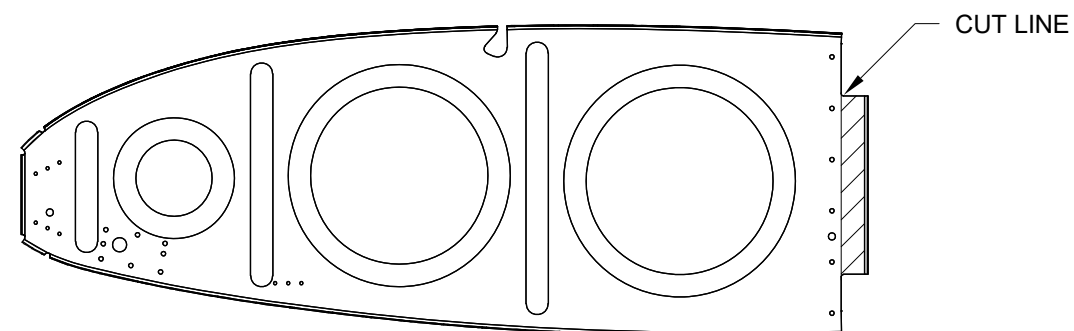

FIGURE 1: W-1208-1 NOSE RIB AFT FLANGE TRIM
Step 2: Select 13 of the 14 W-1208-L-1 Nose Ribs and trim the aft flange as shown in Figure 1.
Step 5: Take seven of the 14 W-1208-R-1 Nose Ribs and trim off the aft flange as shown in Figure 1.